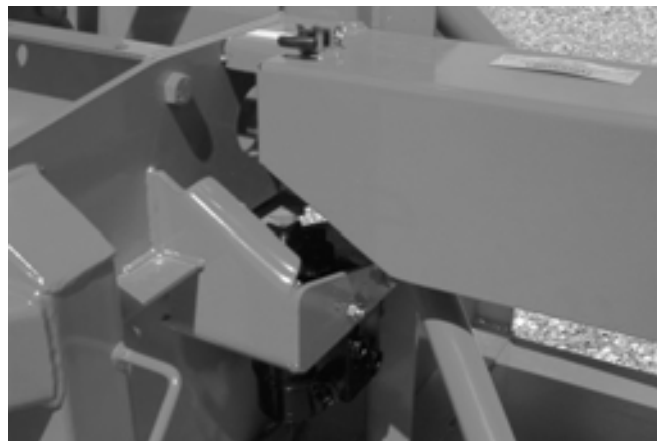

Figure 28
- 7) Close the drive shaft guard (Fig. 28).